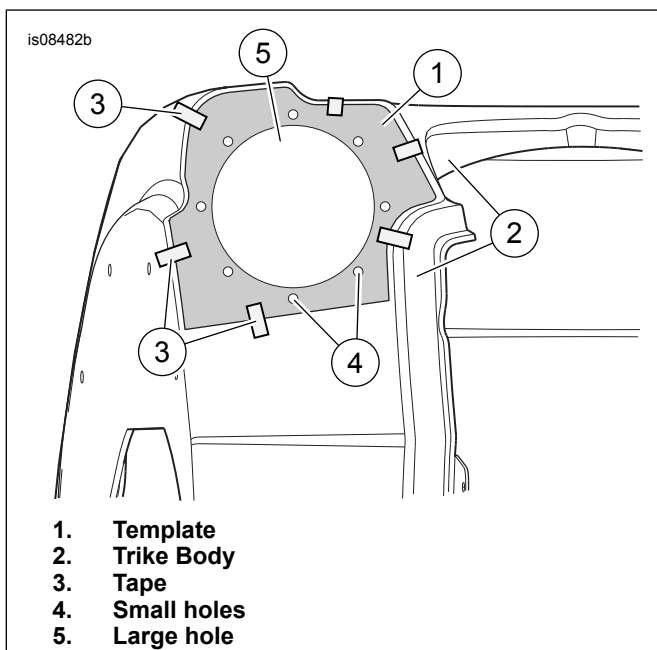

Figure 1. Template Location
- See Figure 1. Align template (1) with one side of the trike body (2). Edges of the template align to tangent edges of the body work rounds. Secure the template with tape (3). Centerpunch the eight small hole (4) locations. Mark the large hole (5) with a contrasting marker or grease pencil.